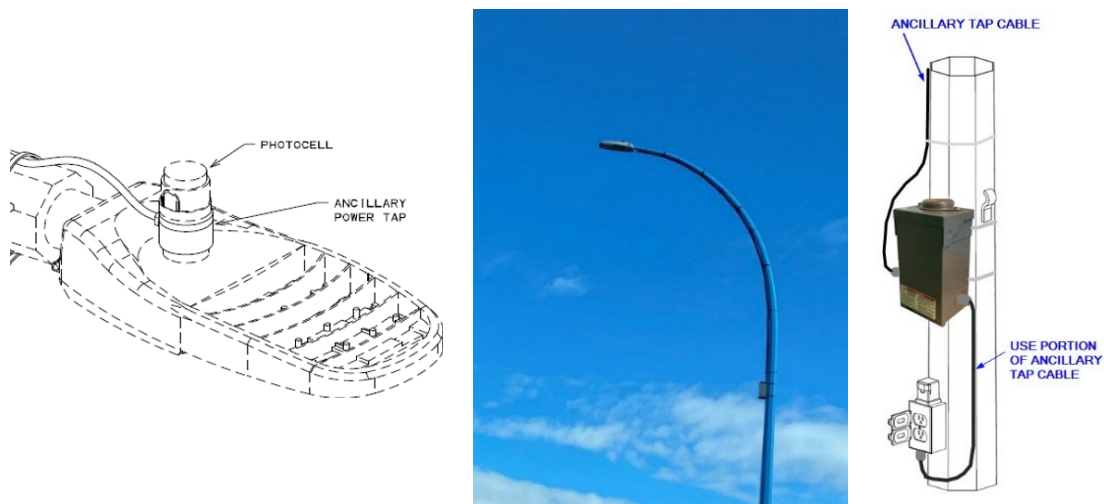

Figure 3: Christmas light servicing on streetlight poles without a nipple
- On streetlight poles without nipple Cardston Electric Utility to supply and install an ancillary power tap (item# 641-0405), a load center (item# 584-0320), and a weatherproof receptacle on streetlight poles. The ancillary power tap will be connected to the photocell of the luminaire (Figure 3 left). The ancillary power tap cable will be strapped to streetlight poles to connect to the line side of the load center (Figure 3 middle). Then the weatherproof receptacle will be connected to load side of the load center (Figure 3 right). The weatherproof receptacle shall be wired as a controlled receptacle (with photo eye). Customer to plug in its service conductors of approved device to the weatherproof receptacle.